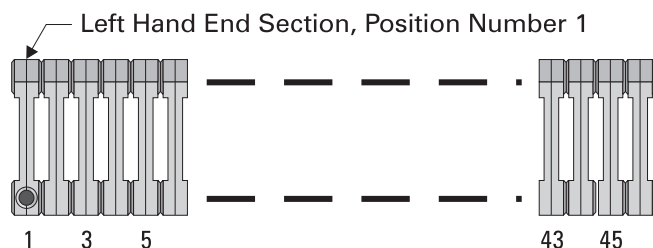

Figure 3.5: Section Positioning Numbering
8. Some of the Intermediate Sections have tappings for installing additional risers from the boiler. These Tapped Intermediate Sections must be installed as shown in Figure 3.5A. The placement order is left to right (Figure 3.5).